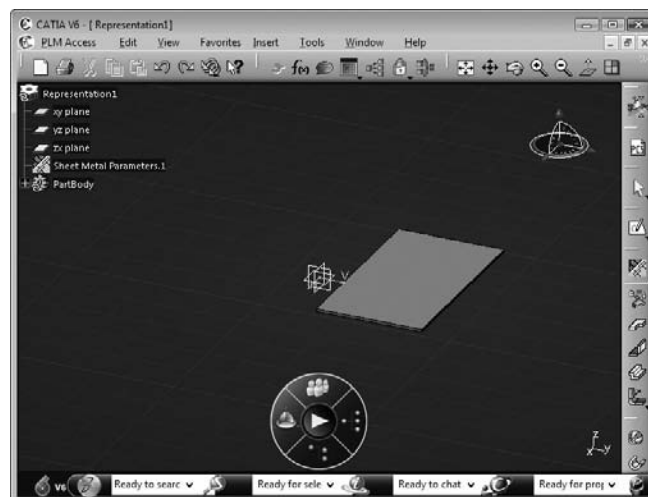

FIGURE 6.83
2. *Create* a base wall, as shown in **Figure 6.83**: